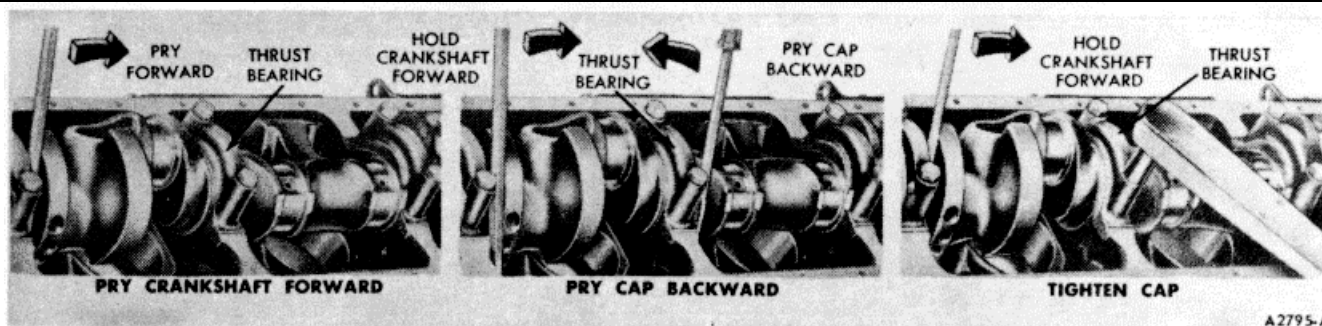

FIG. 50 Typical Thrust Bearing Alignment
7. If the thrust bearing cap (No. 5 main bearing) has been removed, install it as follows: Install the thrust bearing cap with the bolts finger tight. Pry the crankshaft forward against the thrust surface of the upper half of the bearing (Figure 50). Hold the crankshaft forward and pry the thrust bearing cap to the rear. This will align the thrust surfaces of both halves of the bearing. Retain the forward pressure on the crankshaft. Torque the cap bolts to specifications.
13. Pry the crankshaft forward against the thrust surface of the upper half of the bearing (Figure 50).